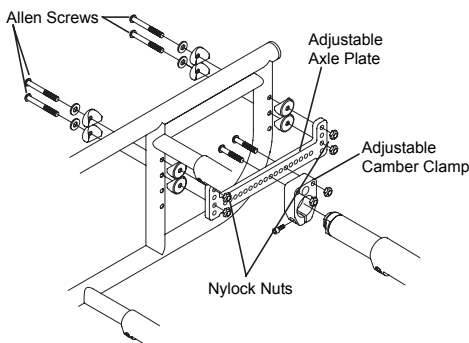

Figure 73
2. Remove the eight Allen Screws (four on each side of the chair) that secure the adjustable axle plates to the frame. Carefully note the order in which the various washers and nuts (and, in certain cases, the stroller handle receptacle and/or anti-tip receptacle) were originally installed on your chair as you will need to reinstall all of these parts in the exact same order in Step 4 below. See Figure 73.
Note: Figure 73 shows the adjustable axle plate mounted on the inside of the frame, which is standard. However, if desired, the adjustable axle plate may be mounted on the outside of the frame.
2. Remove the four Allen Screws (two on each side of the chair) and nylock locknuts that secure the adjustable camber clamps to the adjustable axle plates. See Figures 73 and 74.